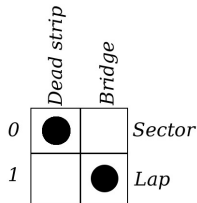

Figure 10: Ds bridge lap count sensor, dead strip sector sensor.
In order that the *Track Interface* interprets the DS bridge as lap counter sensor and the dead strip as sector sensor, the double switch (5) must be set as shown in figure 10.